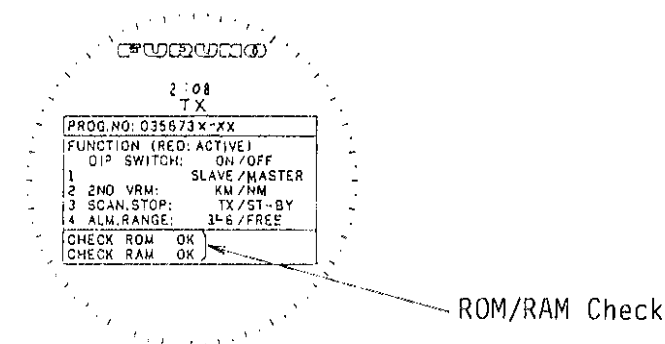

Fig.4-1
3. The self-check of the ROM/RAM will appear as shown in Fig.4-1. If an error is found in the ROM/RAM the message "ERROR" will be displayed next to the faulty ROM/RAM. If no error is detected "OK" will be indicated.